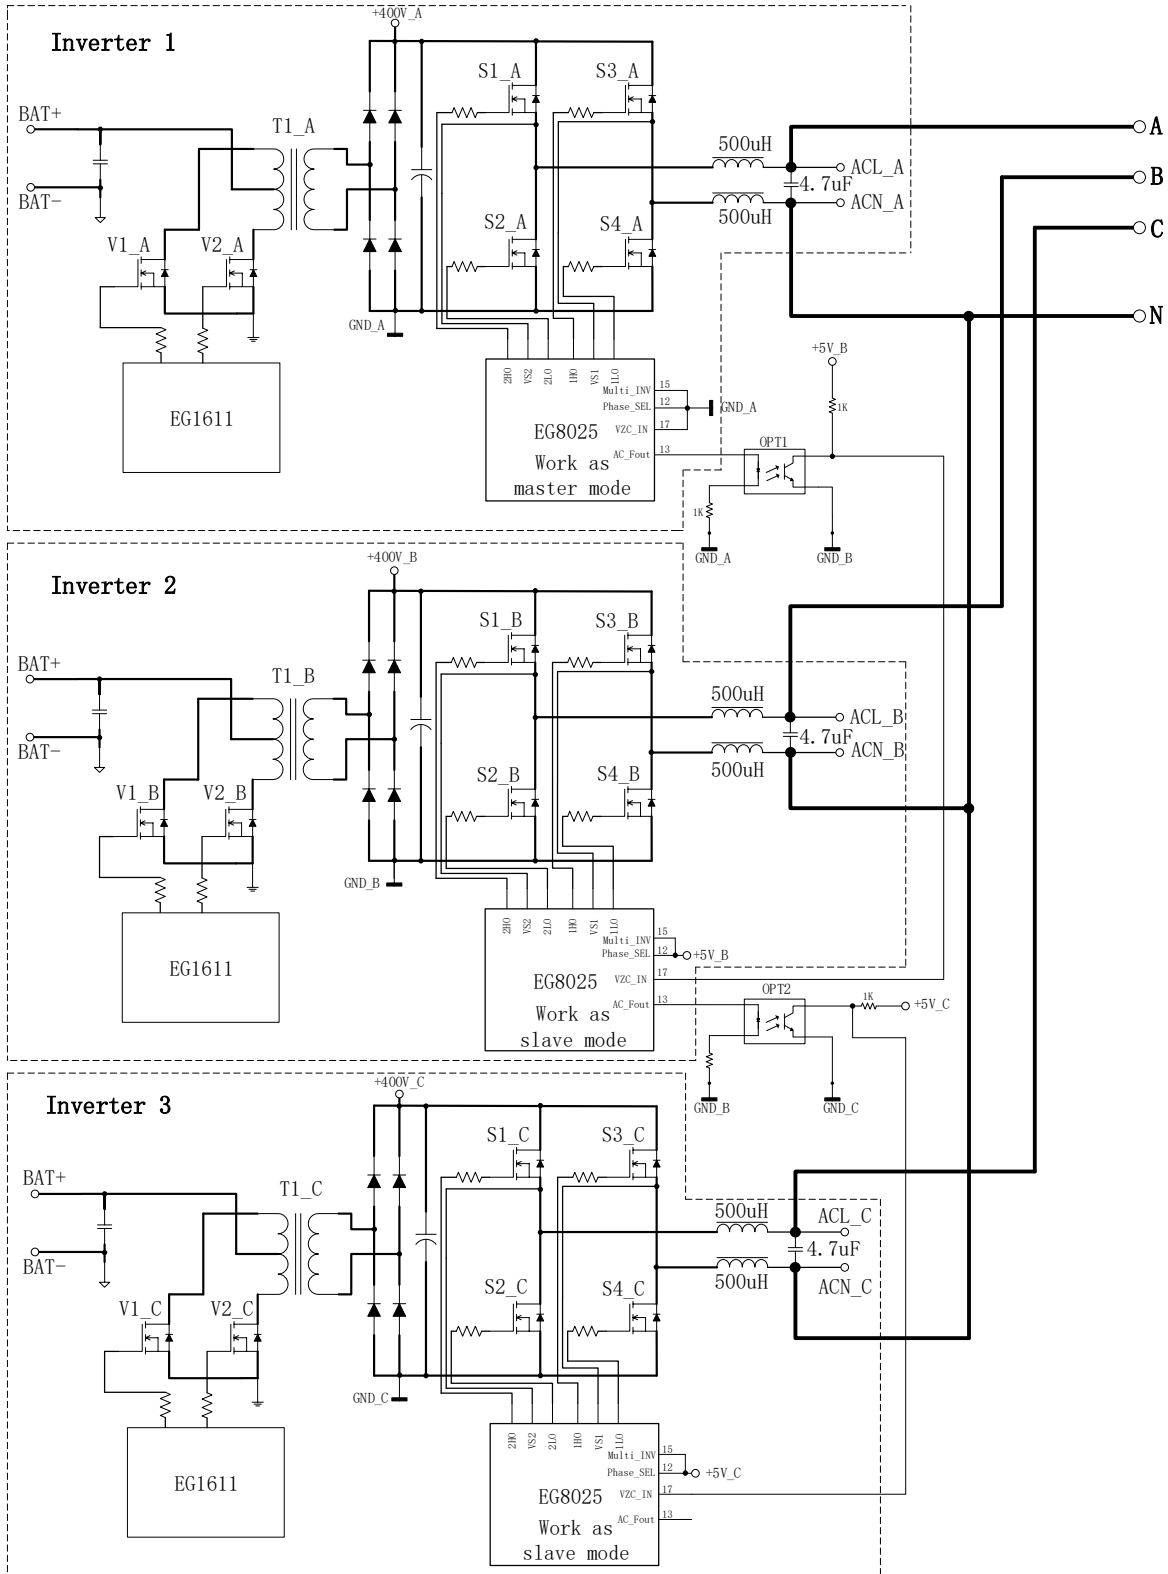

Figure 10-b. Diagram of Group Three-Phase Four-Wire Inverter
**Note:** The power supplies of 400V\_A/GND\_A,400V\_B/GND\_B,400V\_C/GND\_C must be isolated from each other as Figure 10-b.